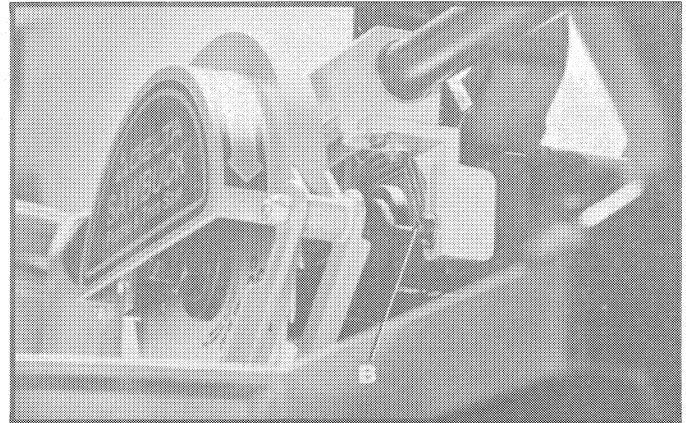
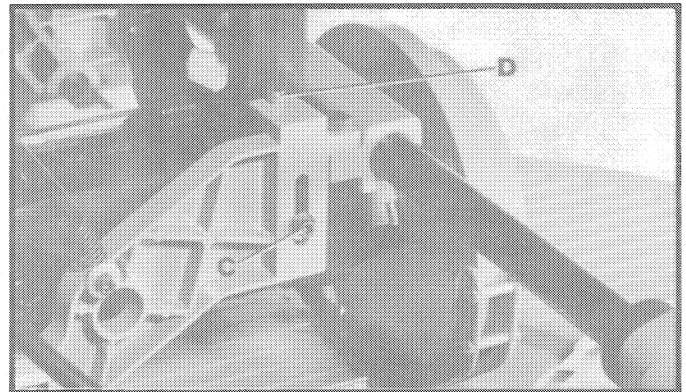

Fig. 40
Fig. 41
1. Loosen screw (B) Fig. 40, and screw (C) Fig. 41. Turn screw (D) Fig. 41, to raise or lower blade. When blade is at the desired height tighten the two screws (B) Fig. 40, and (C) Fig. 41.